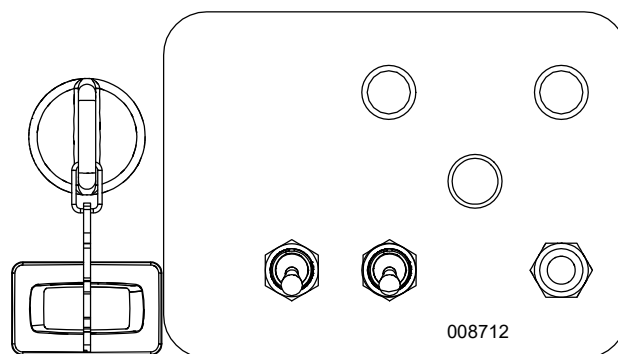

Figure 3-6. Circuit Breakers in OFF (O) Position
1. See **Figure 3-6**. Verify main circuit breaker and circuit breaker for lights are OFF (O).